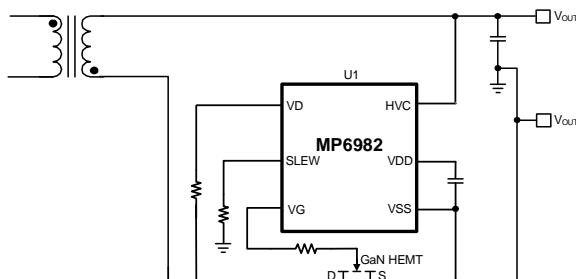

Figure 5: Low-Side Rectification
Figure 5 shows the typical system IC implementation for low-side (LS) rectification.